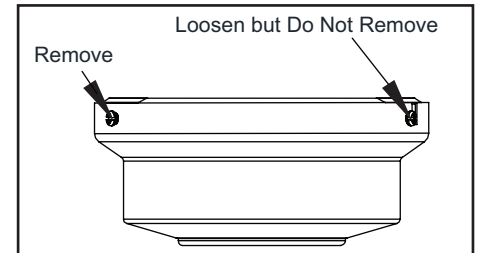

Figure 9
2. Remove the mounting plate from the canopy by loosening the four screws on the top of the canopy. Remove the two non-slotted screws and loosen the slotted screws. This will enable you to remove the mounting plate. (Figure 9)